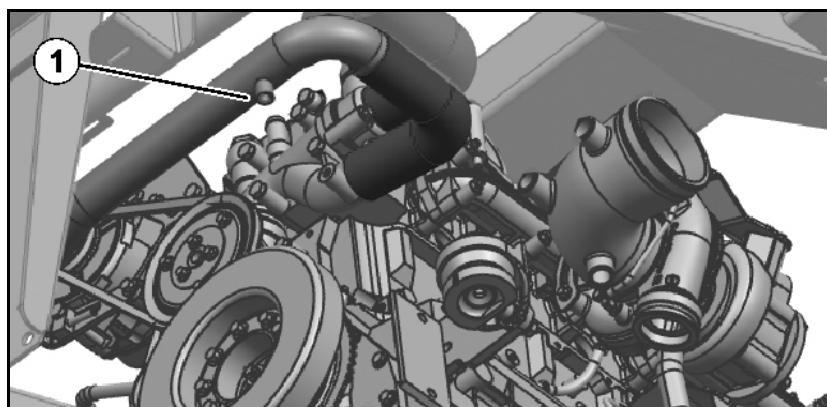

Fig. 148
1. Setup a collecting tray under the sealing bolt (Fig. 148/1).